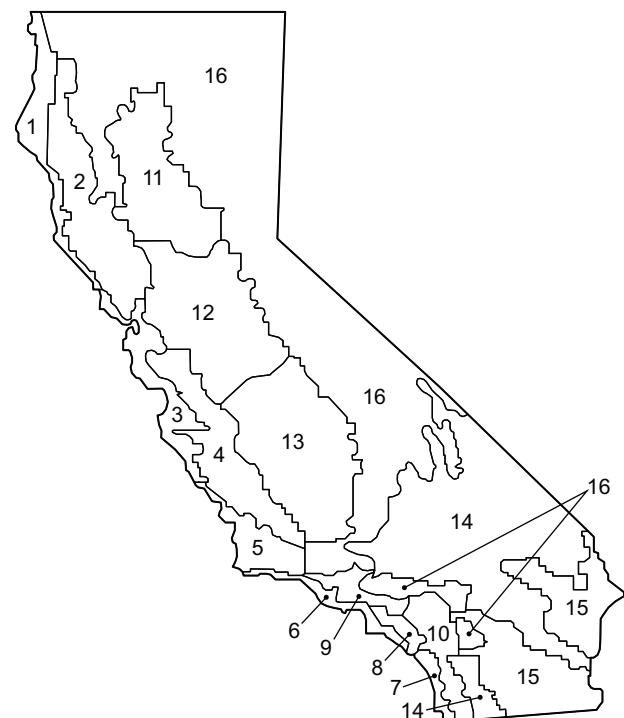

Fig. 63 — California Title 24 Zones
- b. See Fig. 63 for map of California Title 24 zones.